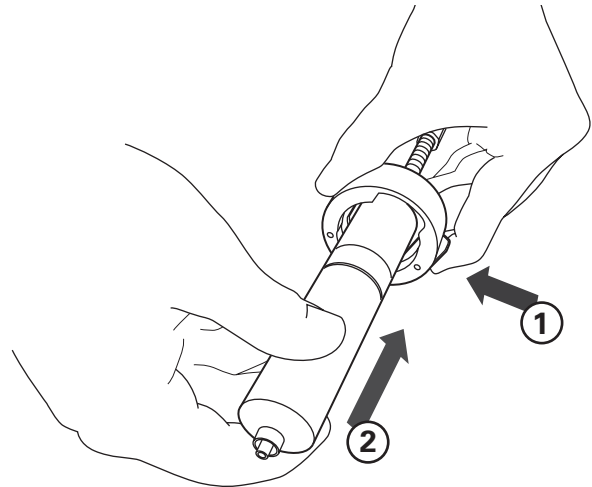

Figure 4: Align and push cartridge into the cap
4. Press the lever and push the cartridge into the cap. Align the cartridge so that it fits fully into the recess in the cap (Figure 4).